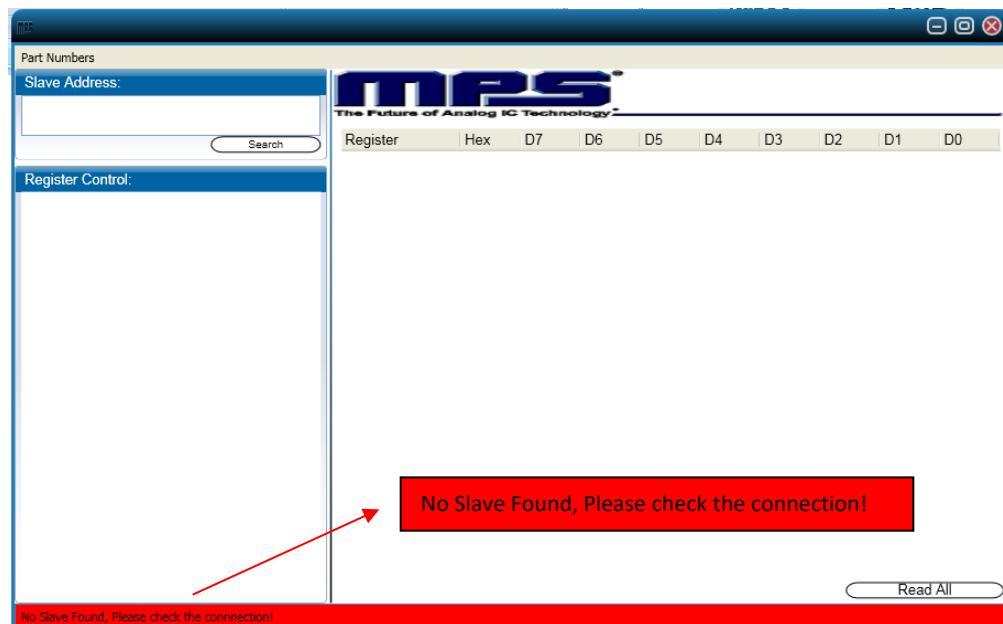

Figure 8: Warning Indicates Unsuccessful Connection – Evaluation Board not Connected
- 1) "No Slave Found. Please Check the Connection!" This means that the evaluation board is not connected (see Figure 8).